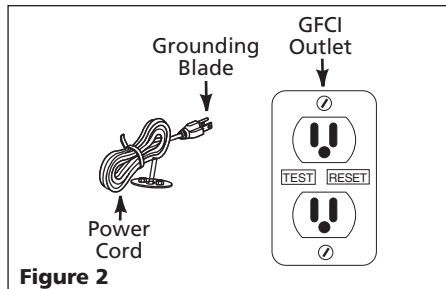

Figure 2
9. Insert the float switch cord plug directly into a 120 volt outlet (See Figure 2).